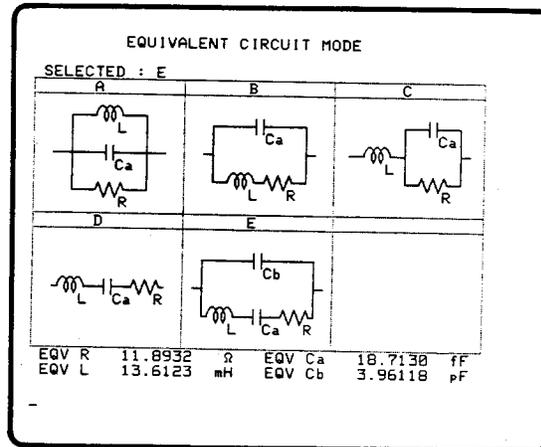

Figure 3-159. Equivalent Parameters Calculation Results
- Press the 'CALC EQV PARA' softkey. The message "Calculating EQV parameters" will appear in the System Message Area for several seconds. Then the "Calculation Complete" message will appear and the calculated parameters will be displayed as shown in Figure 3-159.